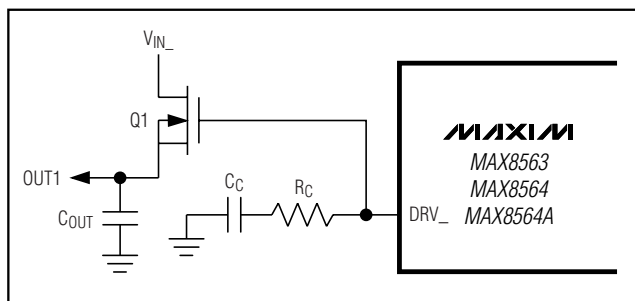

Figure 3. Soft-Start and Compensation Schematic
When an LDO is activated, the respective DRV\_ is pulled up from GND with a typical soft-start current of DRV\_ soft-start. The soft-start current limits the slew of the output voltage and limits the initial spike of current that the drain of the external n-MOSFET receives. The size of the compensation capacitor (CC) limits the slew rate (see Figure 3). This output voltage slew rate is equal to (DRV\_soft-start/CC)mV/ms, where CC is in μF. The maximum startup drain current is the ratio of COUT to CC multiplied by the soft-start current.